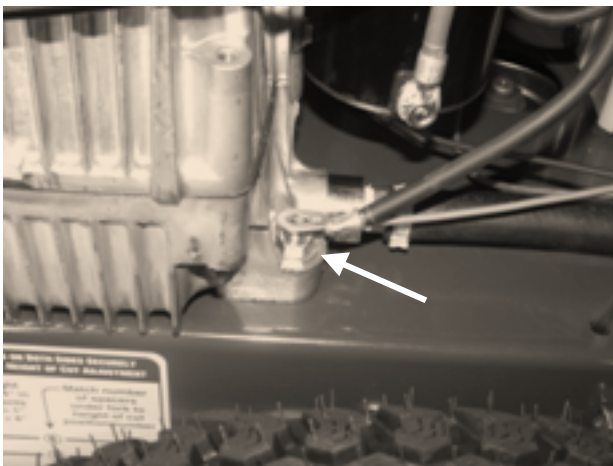

Figure 3
5. Locate ground cables, remove tape and attach both wires to rear engine mounting bolt (electric start machines only) **Figure 3**.